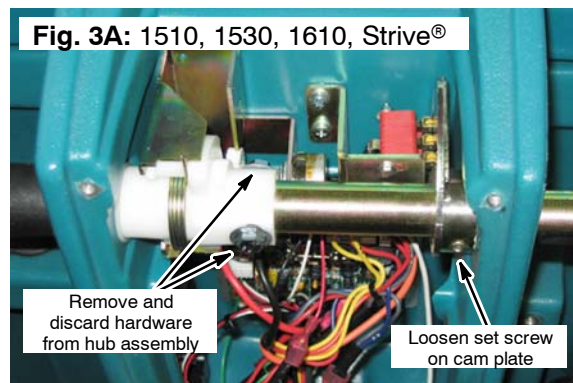

Fig. 3A: 1510, 1530, 1610, Strive®
- (1510, 1530, 1610, Strive® models) Loosen the set screw on the cam plate. Also, remove and discard mounting hardware from the hub assembly (Figure 3A).